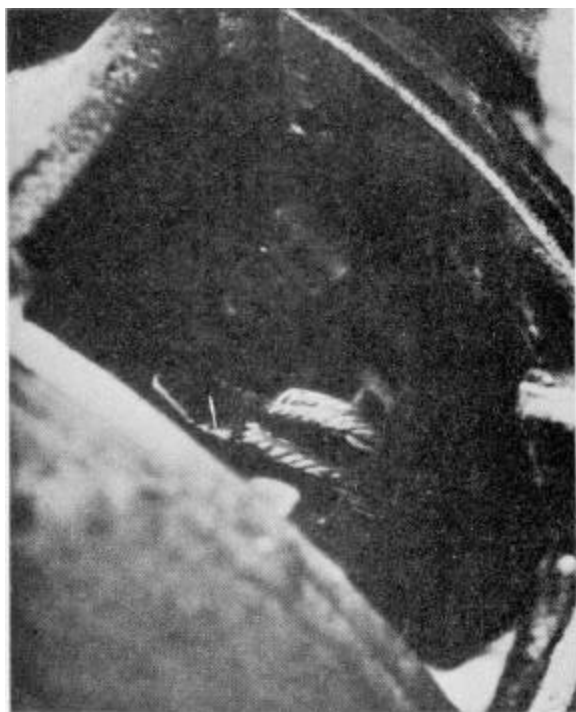
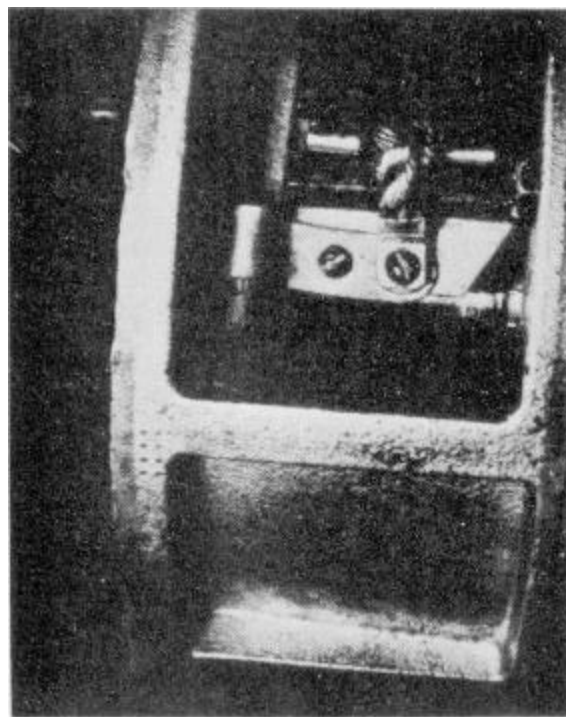

Figure 5-67
Figure 5-68
2. Remove center louvered cover (4) 1/4-20 screws (Pg. 4-4, item 13).
4. Loosen brush cover screw and slide cover off of mounting pins. Upper and lower brush rigging will be exposed (Fig. 5-67 and Fig. 5-68).